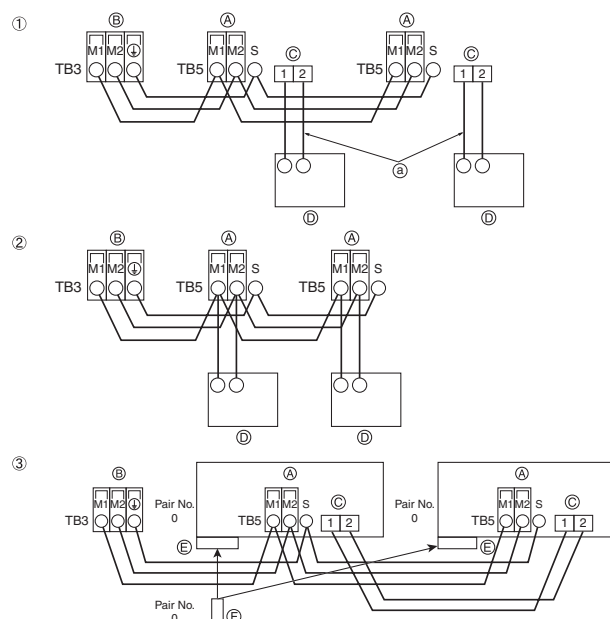

Fig. 5-4
5.2. Connecting remote controller, indoor and outdoor transmission cables (Fig. 5-4)